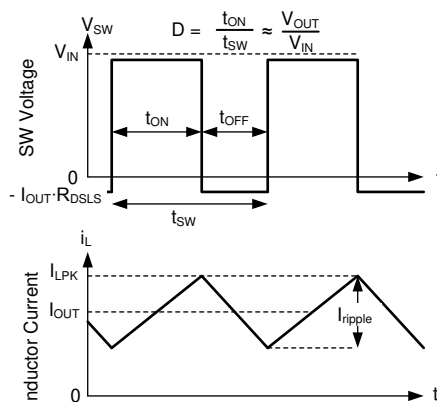

图 23. SW Voltage and Inductor Current Waveforms in Continuous Conduction Mode (CCM)
The following operating description of the LM61460 refers to the Functional Block Diagram and to the waveforms in 图 23. In CCM, the LM61460 supplies a regulated output voltage by turning on the internal high-side (HS) and low-side (LS) NMOS switches with varying duty cycle (D). During the HS switch on-time, the SW pin voltage, V_{SW} , swings up to approximately V_{IN} , and the inductor current, i_L , increases with a linear slope. The HS switch is turned off by the control logic. During the HS switch off-time, t_{OFF} , the LS switch is turned on. Inductor current discharges through the LS switch, which forces the V_{SW} to swing below ground by the voltage drop across the LS switch. The converter loop adjusts the duty cycle to maintain a constant output voltage. D is defined by the on-time of the HS switch over the switching period: